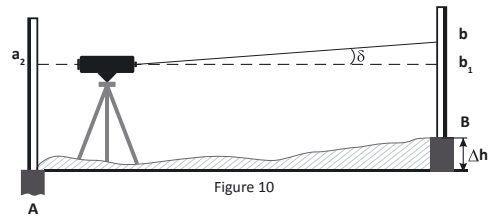

Figure 10
b) Move the instrument and set it at distance 1-2 m from the staff A (Figure 10). Level the instrument and take the readings a2 and b2 on the staffs A and B accordingly. If $|(a_2 - b_2) - (a_1 - b_1)| < 3 \text{ mm}$, further adjustment is not needed.